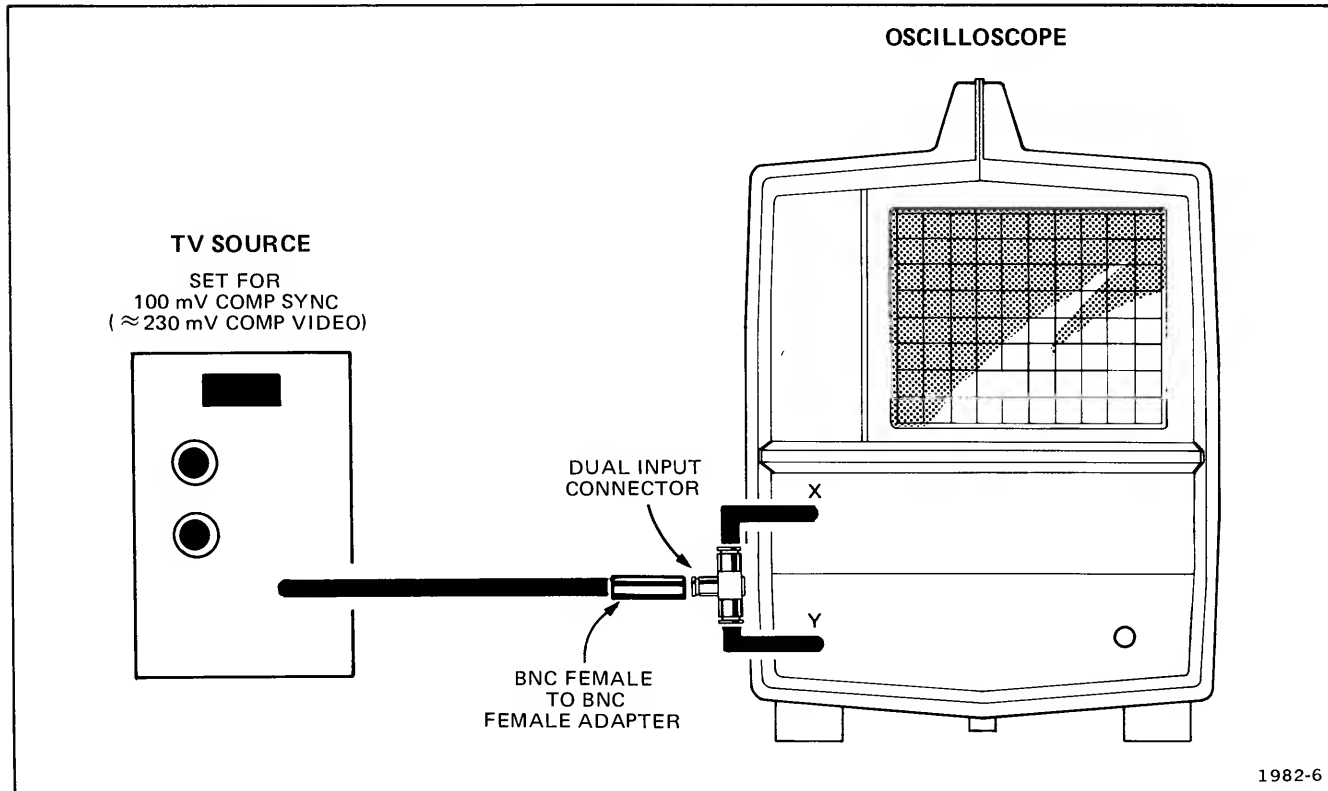

Fig. 3-5. TV trigger check test setup.
- a. Connect test setup as shown in Fig. 3-5.